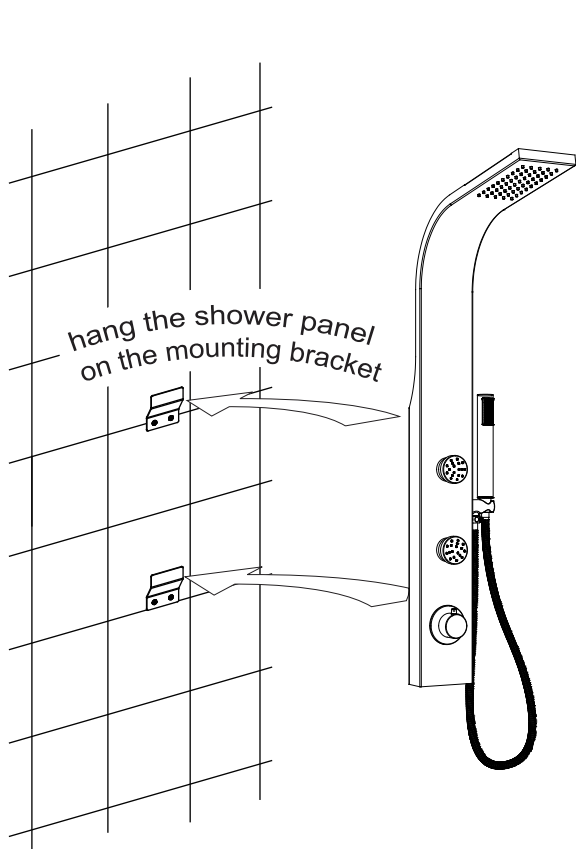
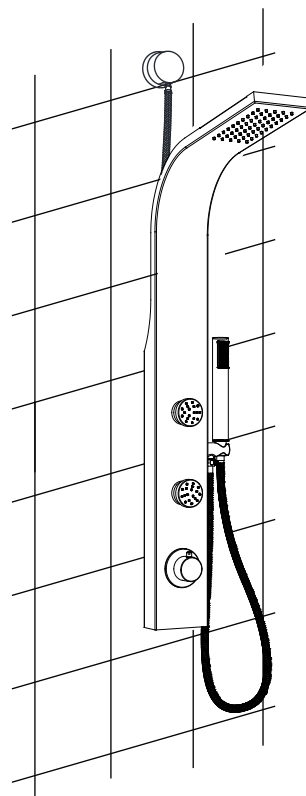

Fig 5.1
Fig 5.3
- 5-3** Slide the shower panel down until it rests on the mounting brackets. Slightly pull down the shower panel to secure. (Fig 5.1, Fig 5.3)